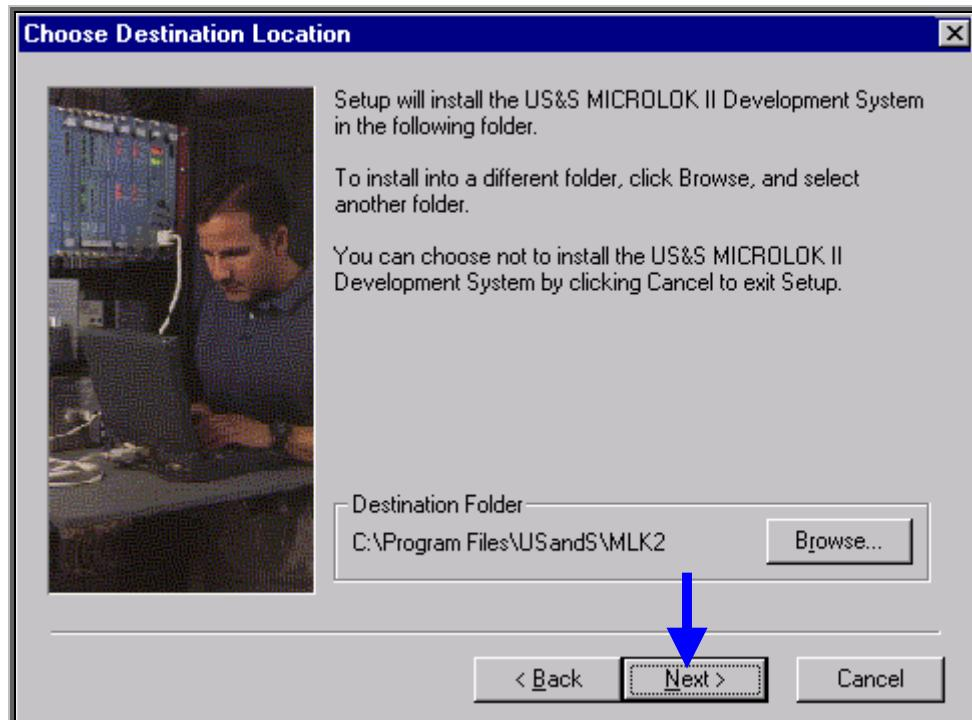

Figure-4.2
- ❖ Click the “Next>” button in the “**Welcome**” dialog box to proceed with the installation and this will present another dialog box as shown in Figure-4.2.